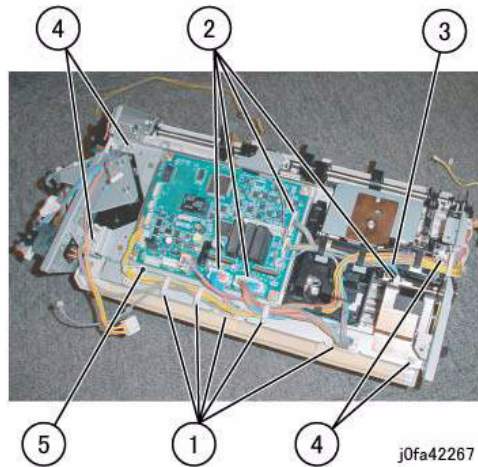

Figure 2 Removing the Bottom Plate
10. Remove the Bottom Plate (Figure 2):